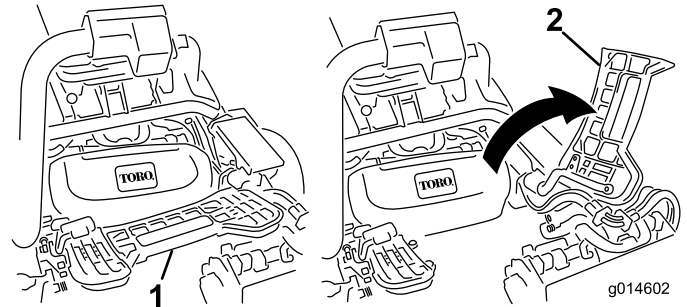

Figure 10
3. If installing the center cutting unit, lift up on the foot rest and swing it up, allowing access to the center cutting unit position (**Figure 10**).